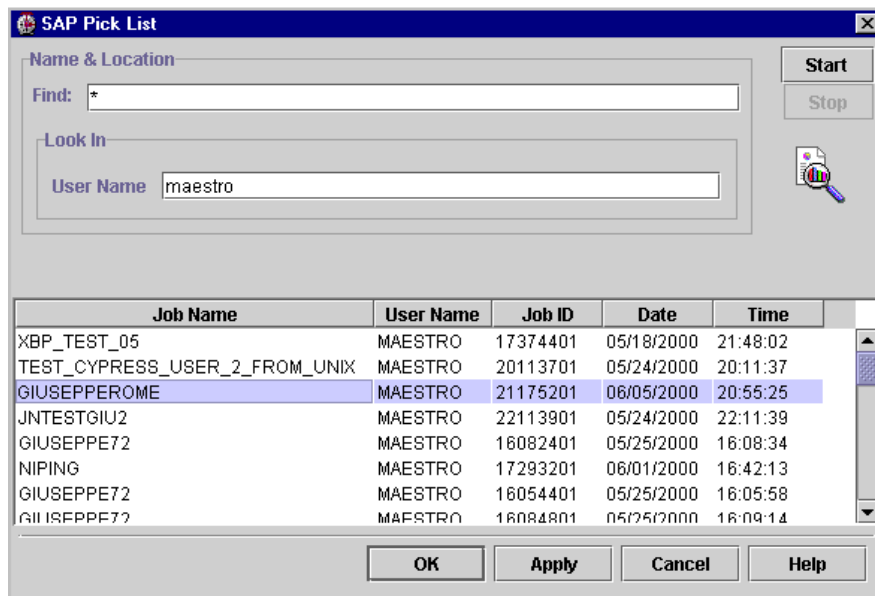
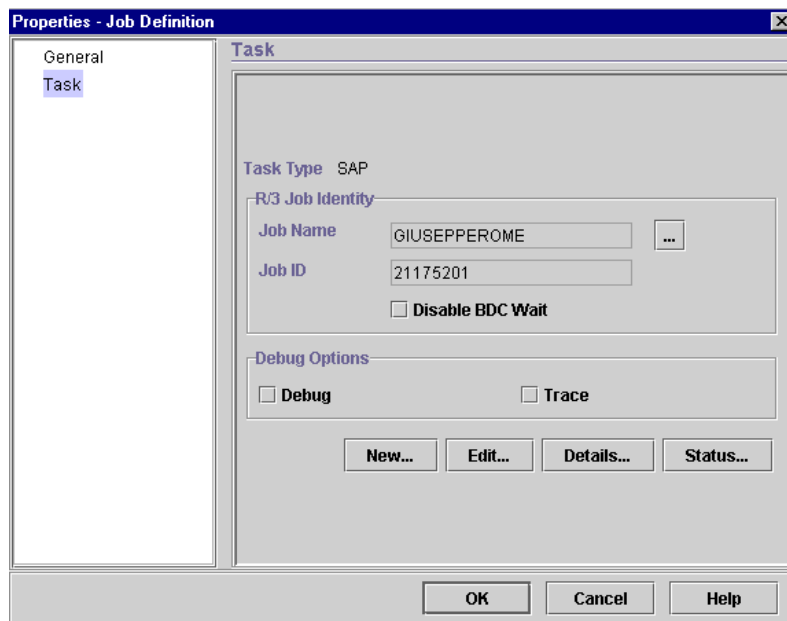
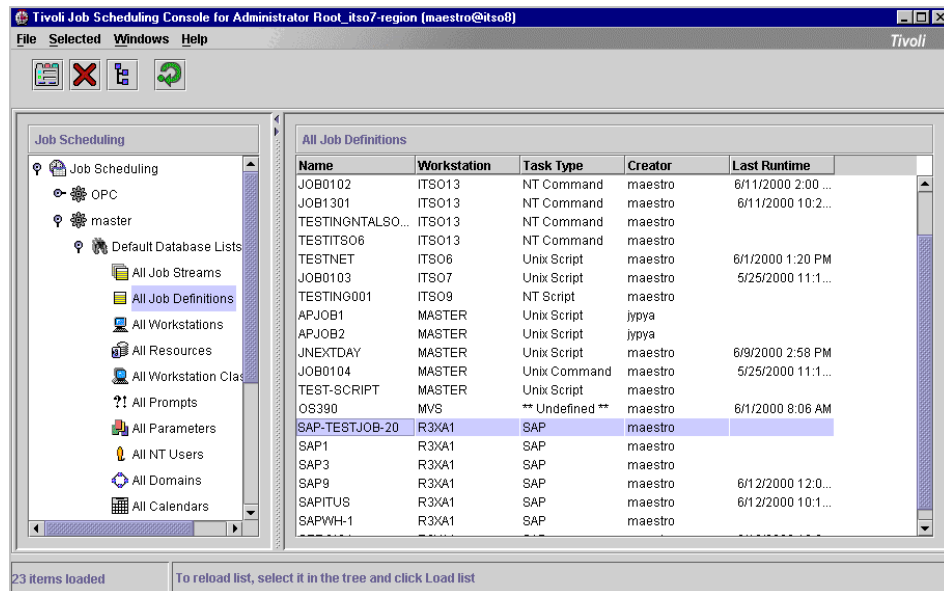

Figure 104. Showing all SAP jobs on SAP R/3 application server for user maestro
Figure 105. Propagated Information from SAP Pick List in Task tab
Figure 106. Displaying the new job in Job Definitions List
5. Use the SAP Pick list to find and select an SAP job, and click the **OK** button. The job information will be propagated to the Task tab. These can be seen in Figure 104 and Figure 105 on page 181.
- Click the **OK** button in Figure 105 on page 181 to save the job definition in the TWS database. You can see the newly-defined job in Figure 106.